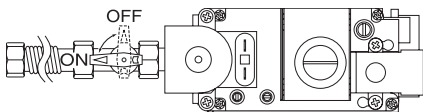

Figure 34 - Turning Equipment Shutoff Valve to the OFF Position
5. Turn equipment shutoff valve clockwise  to the OFF position (see Figure 34). Do not force.
6. Wait five (5) minutes to clear out any gas. Then smell for gas, including near the floor. If you smell gas, STOP! Follow "B" in the safety information, page 20. If you don't smell gas go to the next step.